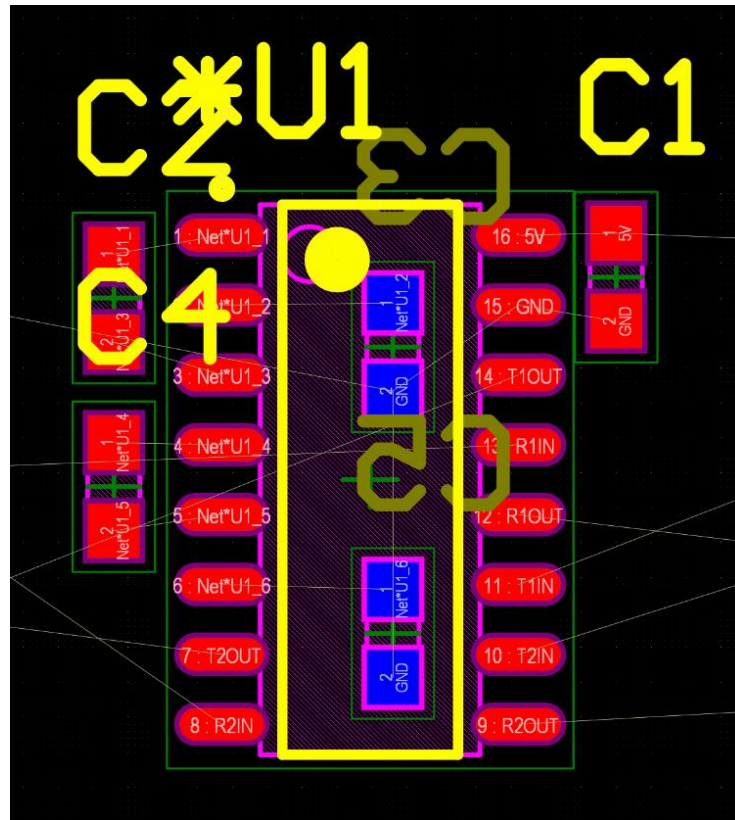

Figure 9: Ideal Layout of RS-232 and Capacitors
16. Using the information from steps 14 and 15, organize your capacitors as shown in Figure 9. Remember that you can rotate your components using the space bar when holding them.